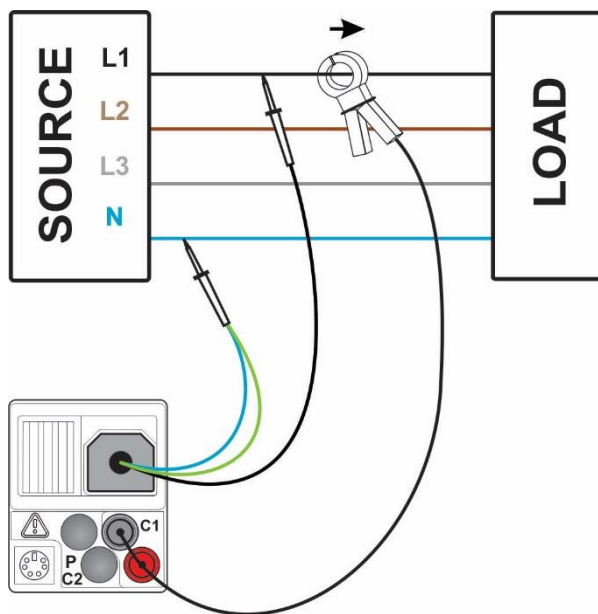

Figure 5.46: Power measurement
- ❑ **Connect** the voltage test leads and current clamp to the item to be tested (see *Figure 5.46*).
See Figure 5.46.
- ❑ **Connect** the voltage test leads and current clamp to the item to be tested (see Figure 5.46).